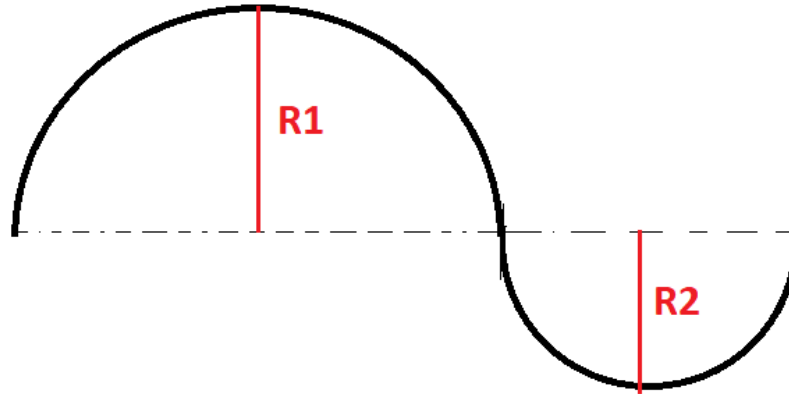

Figure 1. "S" shape path to be followed by the robot.
Follow an "S" shaped path - Implement the program 'SShape.py'. The program should make the robot move in two semicircles of radius "R1" and "R2" respectively, as shown in Figure 1. The robot should stay still until given a command on the terminal. When the terminal command is issued, the robot should perform the first semicircle in a clockwise movement. After completing the first semicircle, the robot should wait for another command, and then perform the second semicircle in a counterclockwise manner. The whole movement must be completed in "Y" seconds moving at the same constant speed for both halves. The robot should stop based on encoder readings (distance traversed), and not based on a given time.
- Observe that, independently of the trajectory, the robot moves by fixing the speeds of the wheels for a given amount of time (as in the "S" shape shown in Figure 1). Taking this into consideration, can the robot move in any kind of trajectory? Consider an ellipse as an example.